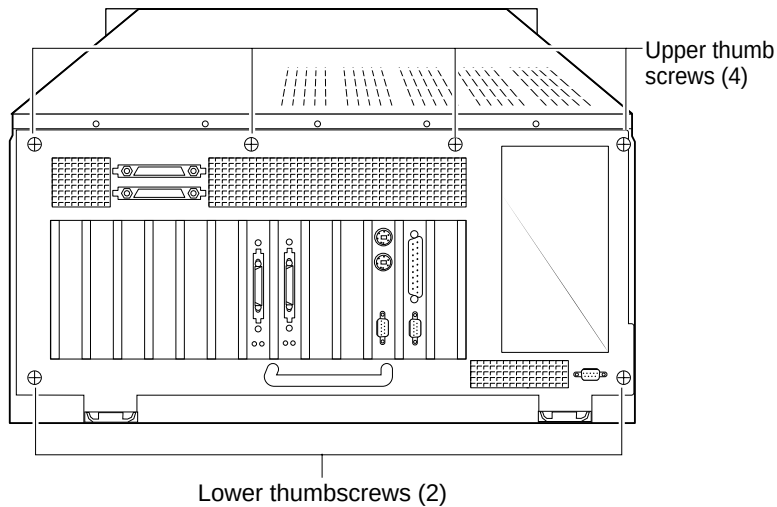

Figure B-2. System backplane carrier thumbscrews
11. Loosen the six thumbscrews on the back panel of the system backplane carrier by turning each thumbscrew counterclockwise (see Figure B-2).
3. Tighten the six thumbscrews on the back panel of the system backplane carrier by pressing in and turning each thumbscrew clockwise (see Figure B-2 on page B-4).